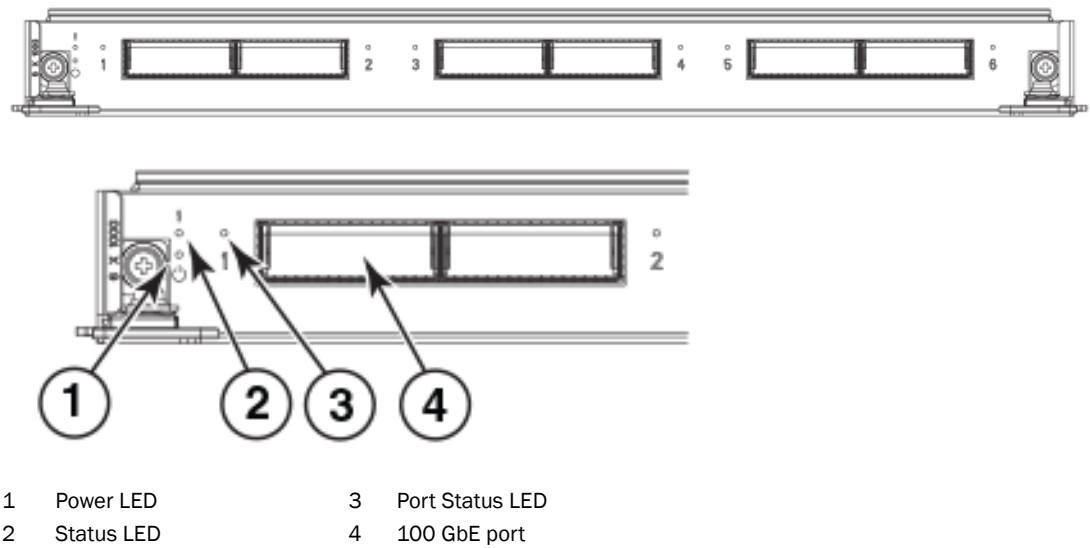

FIGURE 14 6x100 GbE line card (full view and close-up)
- Figure 14 illustrates the 6x100 GbE line card.